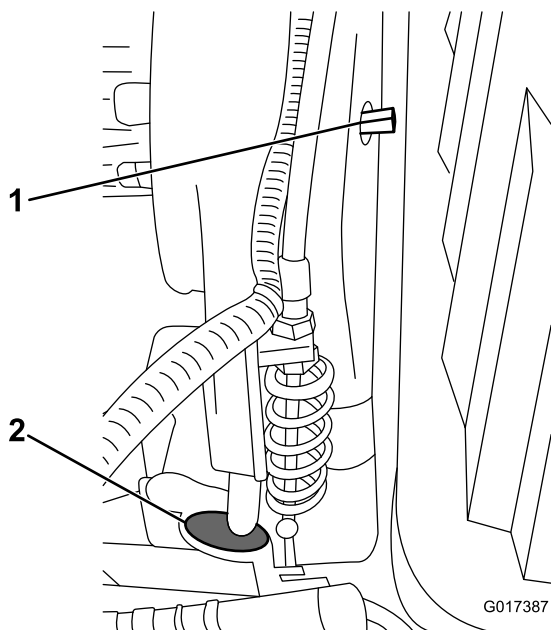

Figure 49
Remove the rubber plug (Figure 49) from the hole in the front of the transmission if you need to access the reel clutch.
The transmission belt is tensioned by a spring-loaded idler pulley. If you must engage or disengage the belt tension, use a 3/8-inch wrench to rotate the engage/disengage shaft (Figure 49) to the desired position. Rotating the shaft 1/4 turn (90°) clockwise disengages the idler from the belt (Figure 50).
- Note:** Remove the rubber plug (Figure 49) from the hole in the front of the transmission to view reel clutch.